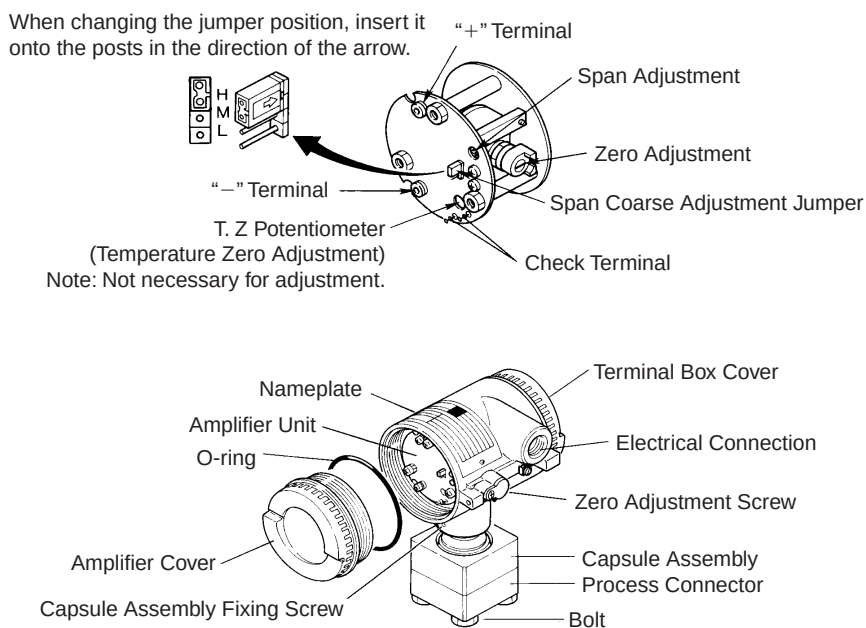

Figure 7.2 Component Names
- 3) To perform the zero adjustment, apply a pressure corresponding to 0% of the measurement range, and turn the zero adjustment screw so that the output is 4 mA (See Figure 7.2).
- 4) To perform the span adjustment, apply a pressure corresponding to 100% of the measurement range, and turn the span adjustment screw so that the output is 20 mA (See Figure 7.2).